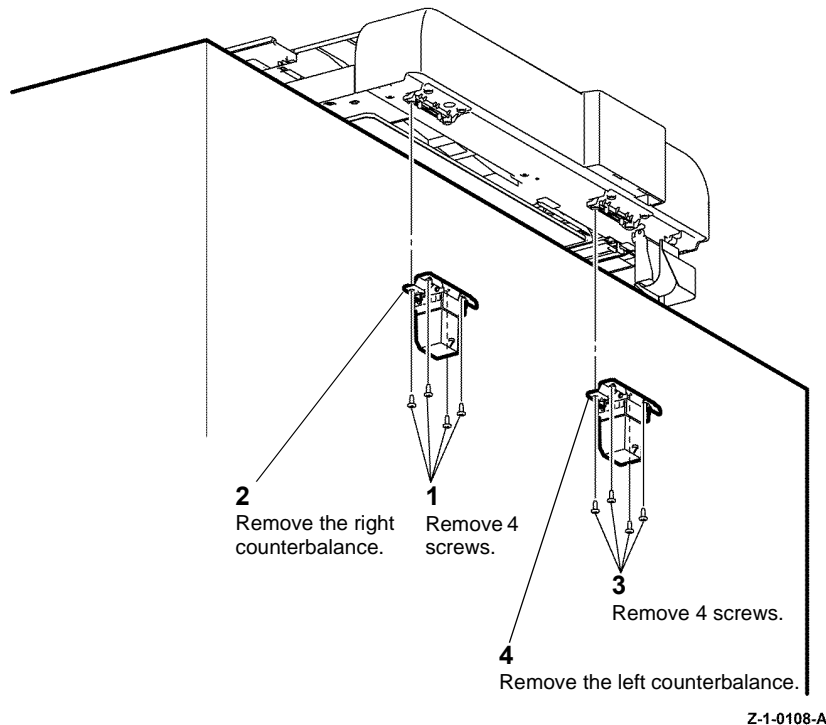

Figure 1 DADF Counterbalances
2. Remove the counterbalance assemblies, Figure 1.